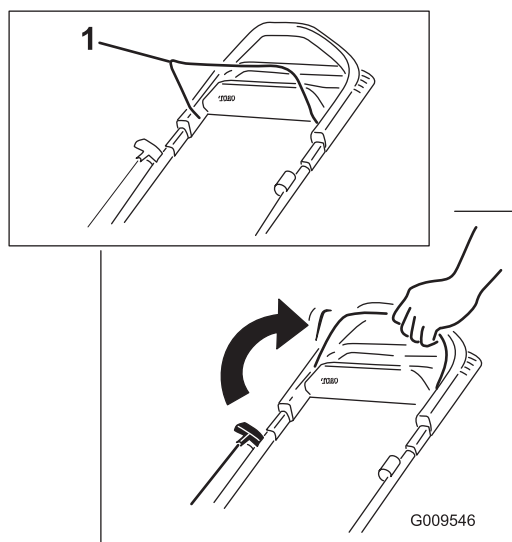
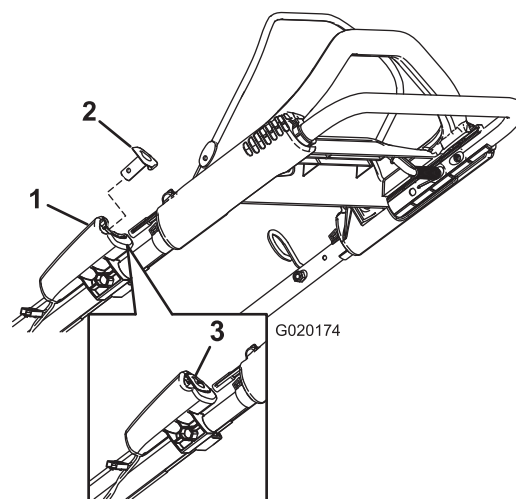

Figure 13
Figure 14
1. Hold the blade-control bar against the handle (Figure 13).
2. Push the electric-start button (Figure 14) (electric-start model only) or pull the recoil start handle (Figure 13).
Note: If the electric-start button if it has been removed, insert it in the electric starter; refer to Figure 14(electric-start model only).